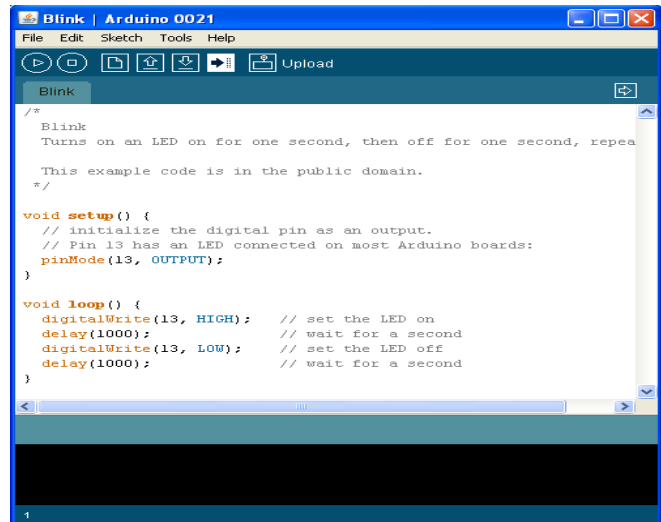

Fig. 5
Step3: Next we need to upload our source code into the target IC. For uploading the source code into target IC we need to click at “Upload” icon. See Fig. 5: